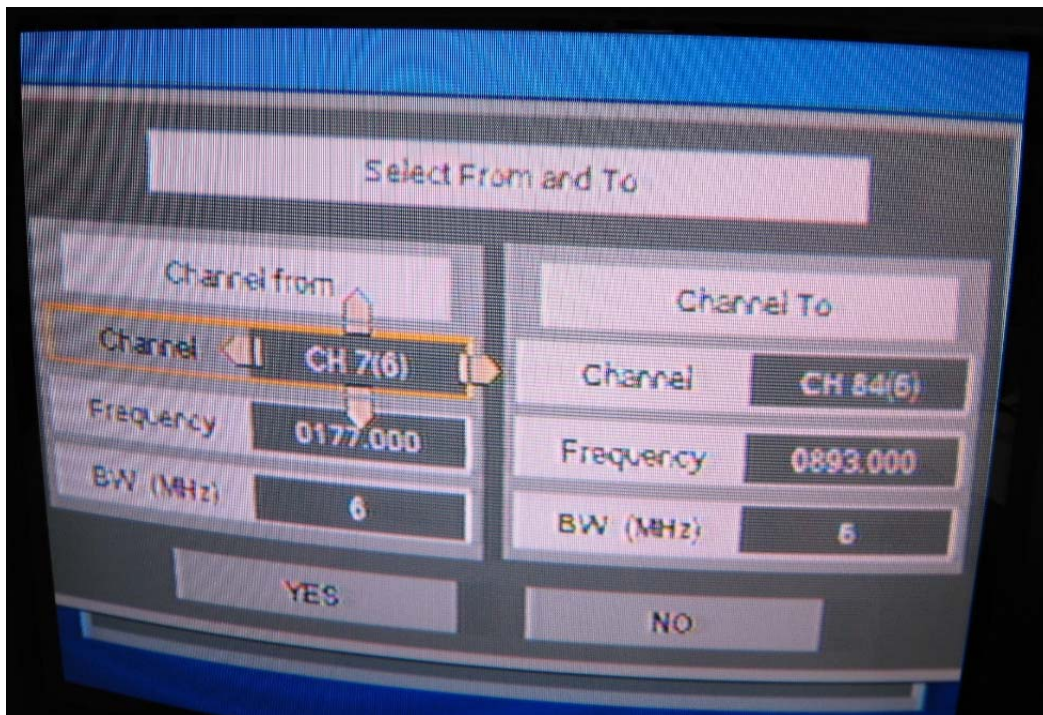

Figure 9
2. Use the “Up/Down” arrow key to highlight “Range search”.”Press the “OK” button to select “Range search” (See Figure 7). After the “OK” button is pressed, the screen as in Figure 9 will be displayed.
3. The desired range of channels or frequencies to search is selected from this screen (Figure 9). Enter the beginning channel or frequency (channel from) and the end channel or frequency (channel to). The desired BW (bandwidth) must be selected also. Highlight the “Yes” field, Press the “OK” button to start the search. If “No” field is highlighted, then the operator will be prompted to re-enter the range of search channels again.